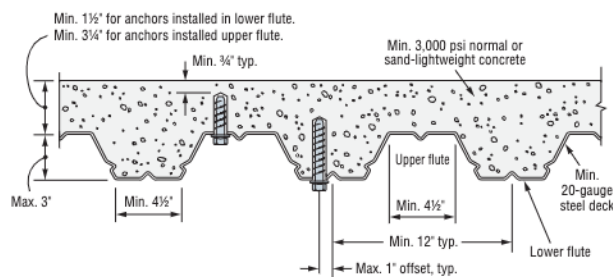

Figure 1. Installation of ⅜"- and ½"-Diameter Anchors in the Soffit of Concrete over Steel Deck
3. For anchors installed in the soffit of sand-lightweight or normal-weight concrete over steel deck floor and roof assemblies, as shown in Figure 1 and Figure 2, calculation of the concrete breakout strength may be omitted.